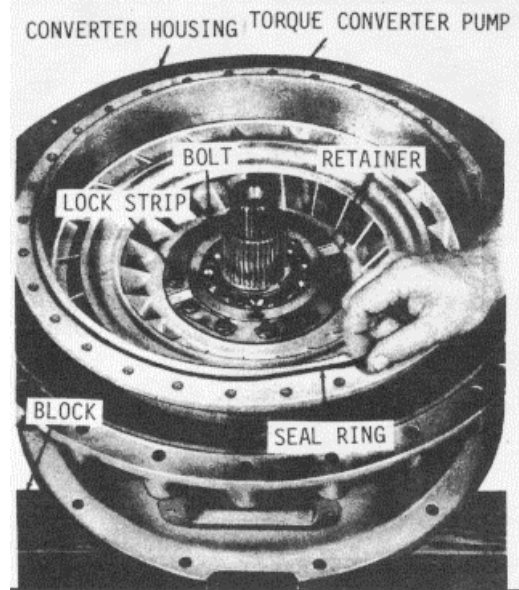

Fig. 9
- (8) Remove 12 bolts, six lock strips and the split retainer that retains the converter pump (Fig. 9).
- (9) Remove the converter pump (Fig. 9).